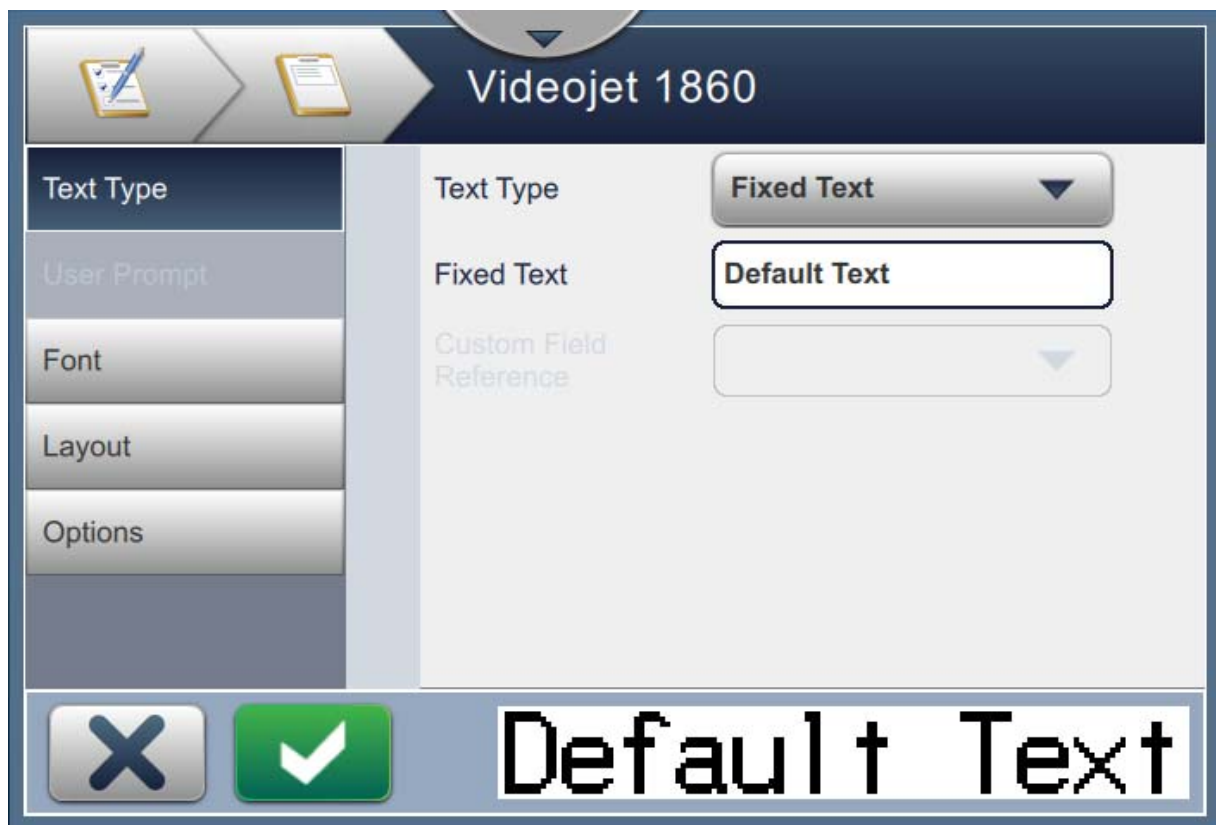

Figure 5-5: Field Settings Screen
8. Change the parameters as required on the settings screen for the selected field as shown in Figure 5-5. Touch the  button to save the required format of the field.